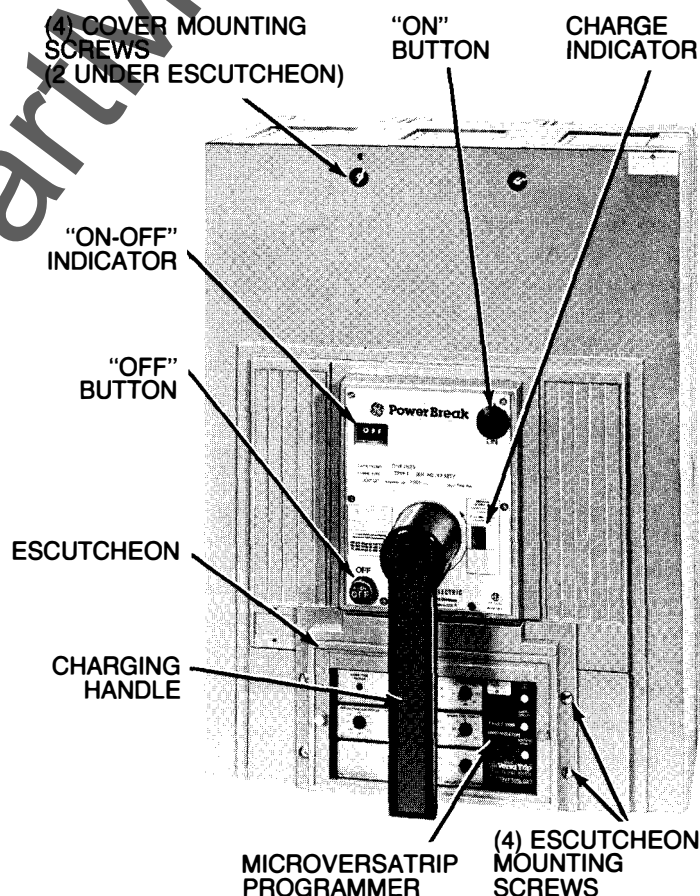

Figure 1.
Remove the escutcheon by unscrewing (4) escutcheon mounting screws, then unscrew the (4) cover mounting screws. Lift off the breaker cover. See Figure 1.